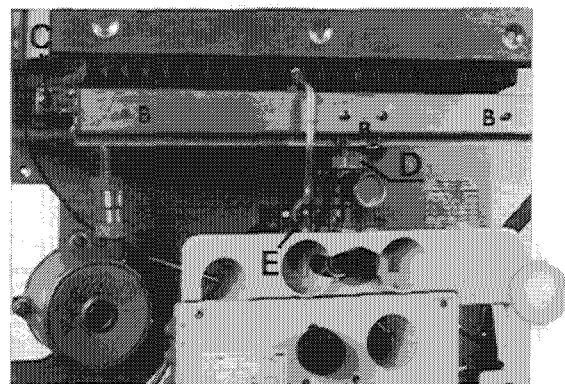

Fig. 21
7.2.1 To clean the burner (fig. 21)
- Remove pilot clamp screw (A fig. 21)
- Carefully unscrew the nut retaining the pilot injector (E fig. 21) taking care not to lose the injector which is in the form of a small washer using a 8 mm or adjustable spanner. Clean the injector by blowing also clean pilot filter.